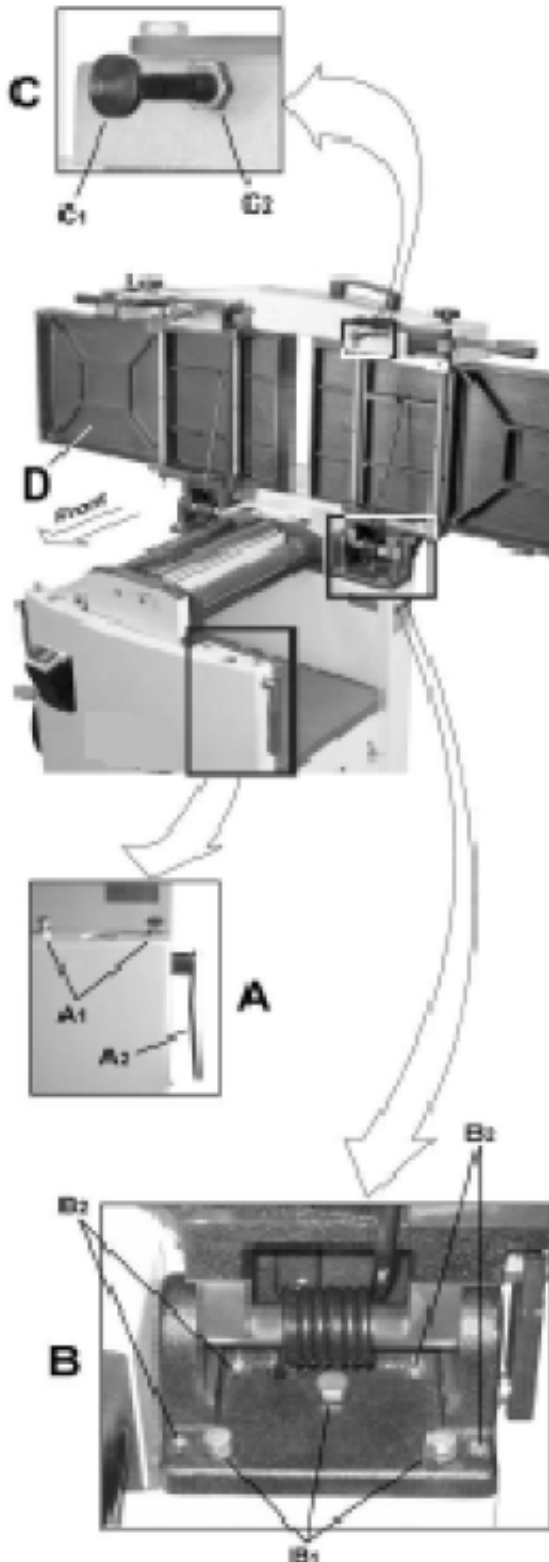

Fig. 13: Adjustment of rear and front area
- Step 2: Unlock both cabinet lock handles (Pos. A2, Fig. 13).
- Step 3: Raise the table (D) fully upright. Adjustment is performed by means of four setscrews (Pos. B2, Fig. 13) that adjusts the table pitch and tilt at the back (towards the fence) and two hex cap screws (Pos. A1, Fig. 13) that adjusts the table toward the front.
Step 3: When adjustment is complete, tighten the hex cap screws (Pos. B1, Fig. 13).
Step 1: Hold the hex cap screws (A1, Fig. 13) in place with one wrench while using the other to loosen the locking hex nuts.
Step 2: Adjust the screws (Pos. A1, Fig. 13) slightly from 1/8 to 1/4 turn.
Step 3: Loosen the three hex head screws (Pos. B1, Fig. 13) with a 13 mm socket wrench:
For best performance, the thicknesser table lock handles (Pos. A2, Fig. 13) should be approximately in the fully down position when in the locked position. If adjustment is required:
Step 2: Unlock the lock handle (Pos. A2, Fig. 13) and raise the table to the upright position.
Step 3: Loosen locking nut (Pos. C2, Fig. 13) with an 18 mm. wrench.
Step 5: Tighten the locking nut (Pos. C2, Fig. 13).